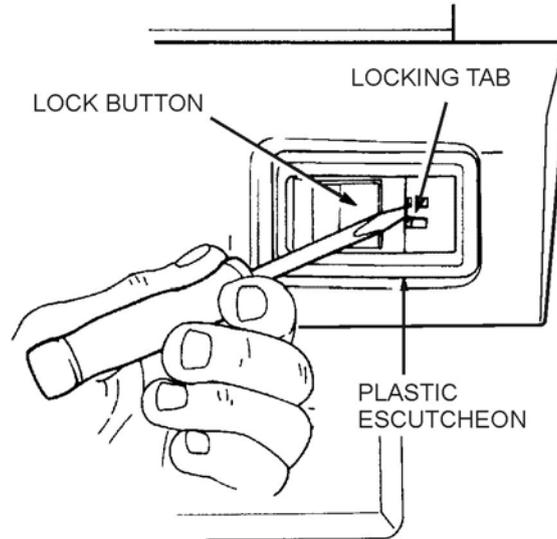

Figure 11 Door Lock Button Escutcheon Removal
- Remove the plastic escutcheon from the lock button by depressing the locking tab with a small screwdriver (refer Figure 11).
- h. Remove the screws securing the interior lock handle bezel (refer Figure 11).